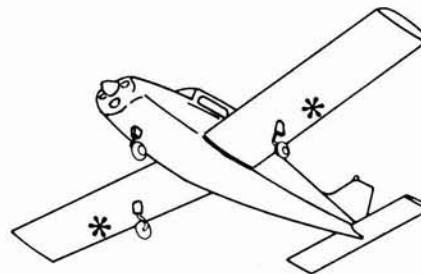

Figure 3. Access Hole for Aileron Bellcrank Pivot Bolt (Underside of LH Wing Shown)
- a. Drill a 0.875 inch diameter hole in the lower wing skin, directly below the bellcrank pivot bolt to permit access to the nut end of the bolt. (See Figure 3 for exact location.) Remove the existing access cover from the top side of the wing to permit access to the head of the pivot bolt.